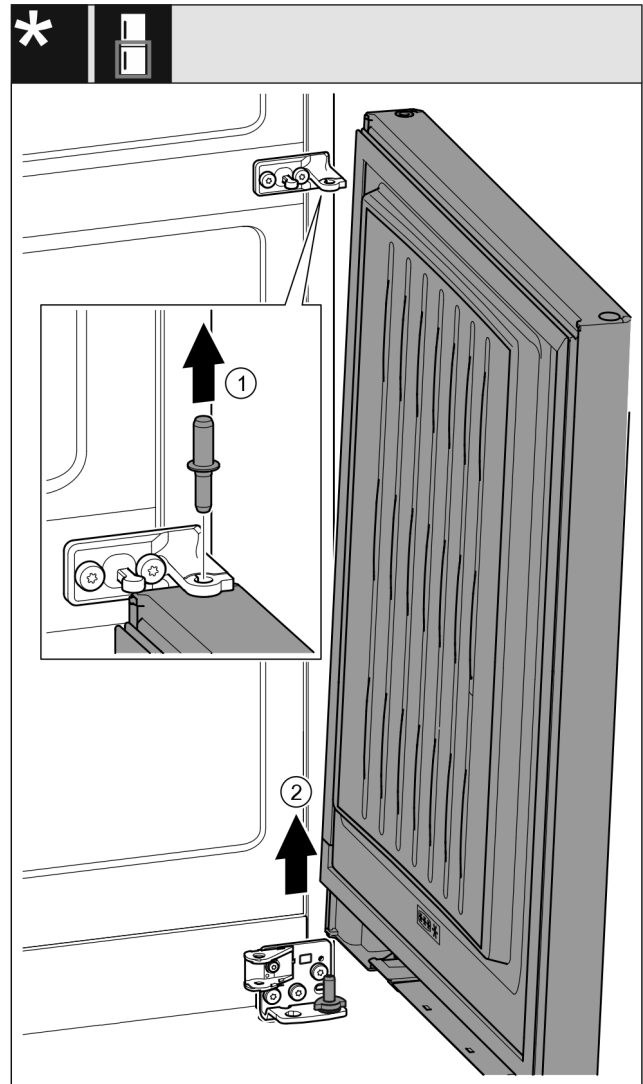

Fig. 32 With closing damper*
- Pull out the bolt Fig. 32 (1) upwards.*
- Swing out the door Fig. 32 (2), pull it upwards and set it aside.*